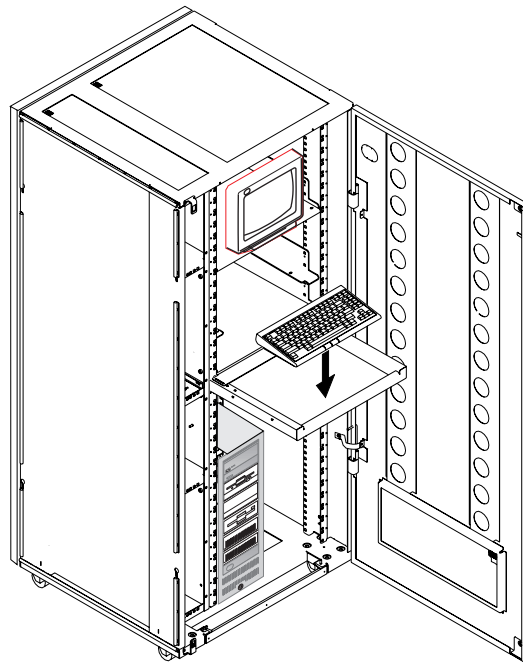

Figure 1-52. Installing the Keyboard
13. ____ Open the drawer and install the keyboard as shown in Figure 1-52.